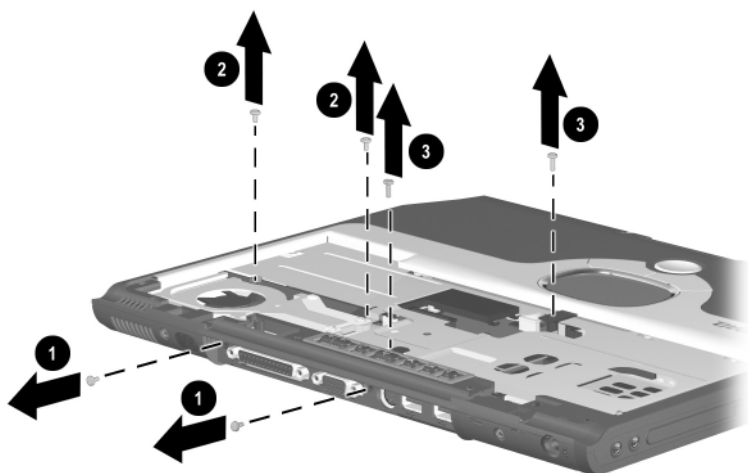

Figure 5-23. Removing the Top Cover Screws
- a. Two PM2.0 \times 5.5 screws ❶ that secure the top cover to the base enclosure on the computer rear panel (Figure 5-23)
- b. Two PM2.0 \times 4.0 screws ❷ that secure the top cover to the base enclosure through the metal tabs on the top cover shield
- c. Two PM2.0 \times 8.0 screws ❸ that secure the top cover to the base enclosure through the plastic tabs on the top cover